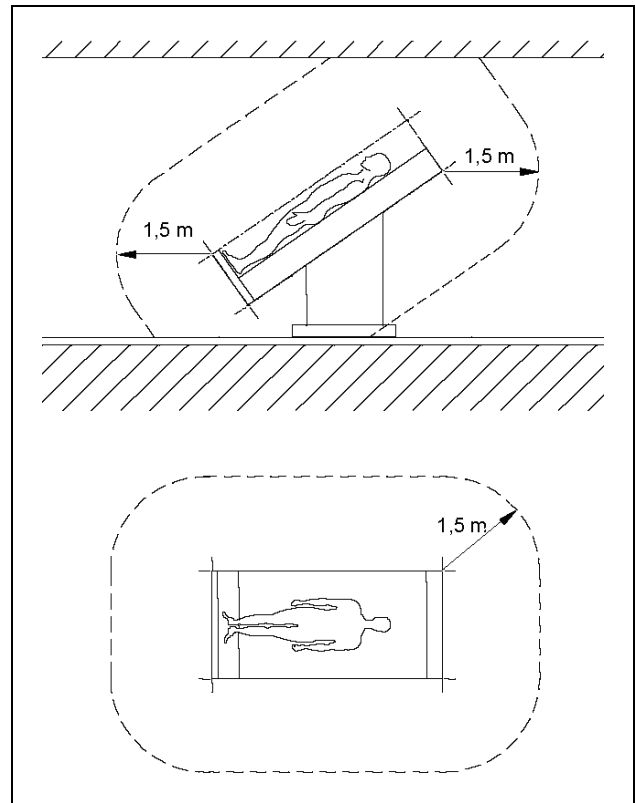

Figure 1: Definition of patient environment
**Exclusion of operation in the patient environment:** Neither the product nor any peripheral devices may be operated in the patient environment (refer to Figure 1).